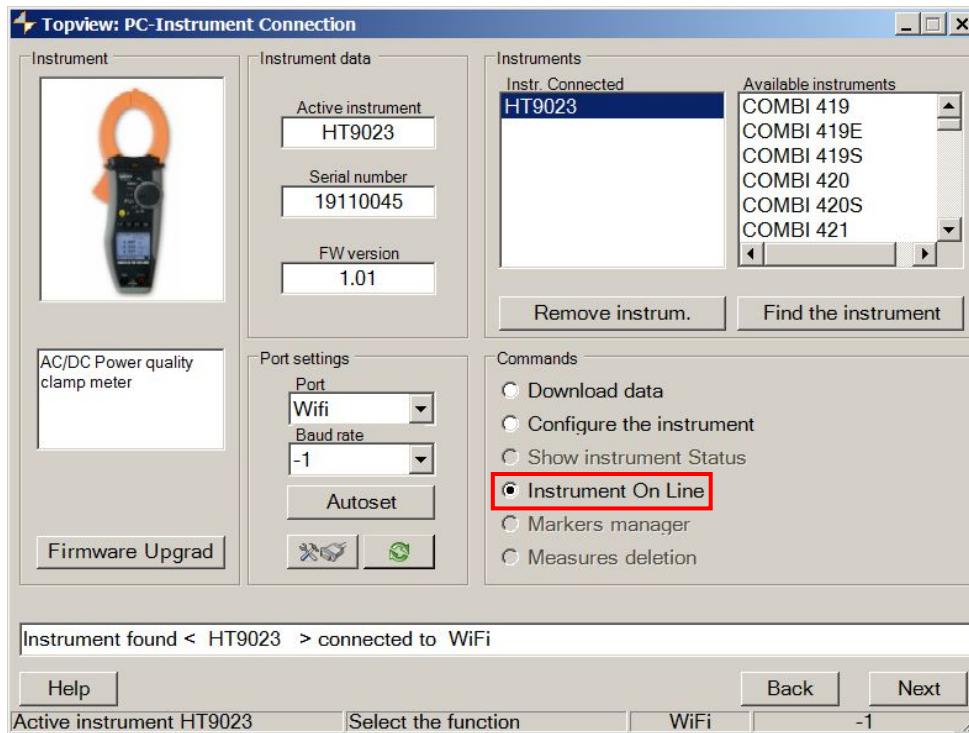

Fig. 19: Real-time connection of the instrument
7. Open the "**PC-Instrument connection**" section and select the "Instrument on line" option as shown in the following Fig. 19